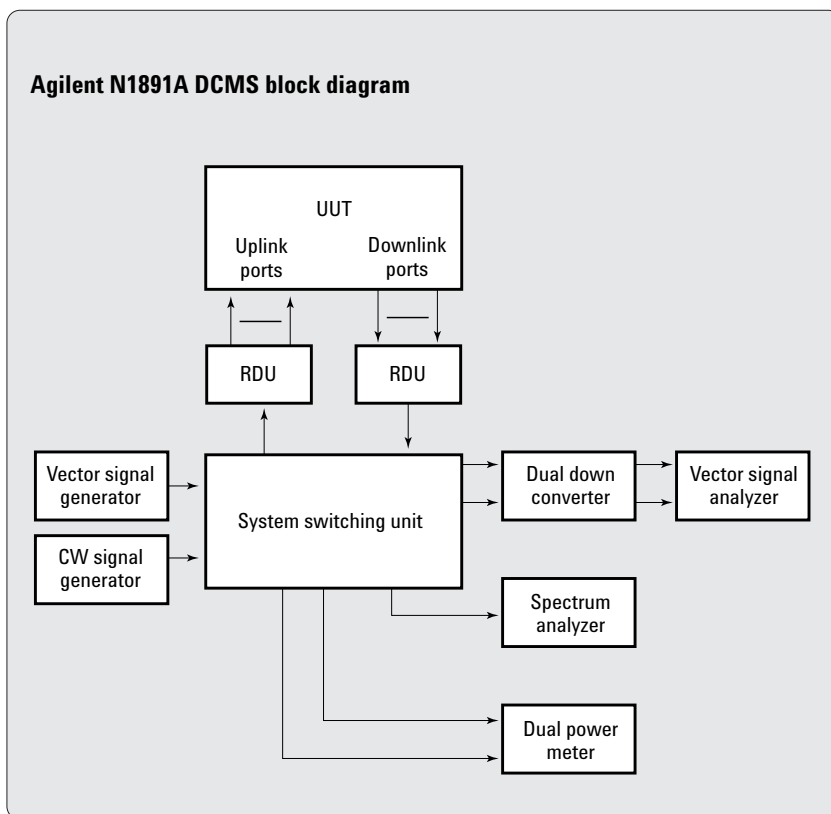

Figure 2. The DCMS uses COTS test equipment for increased reliability.
The block diagram in Figure 2 illustrates how the typical DCMS instrumentation connects to a unit under test (UUT), such as a communications payload. Two microwave sources are used to provide uplink RF stimulus to the UUT. A vector signal generator is used to generate multi-tone and complex digital stimulus. A continuous-wave (CW) signal generator is used to provide an additional uplink tone for the wide-bandwidth stimulus required in passive and active intermodulation testing.